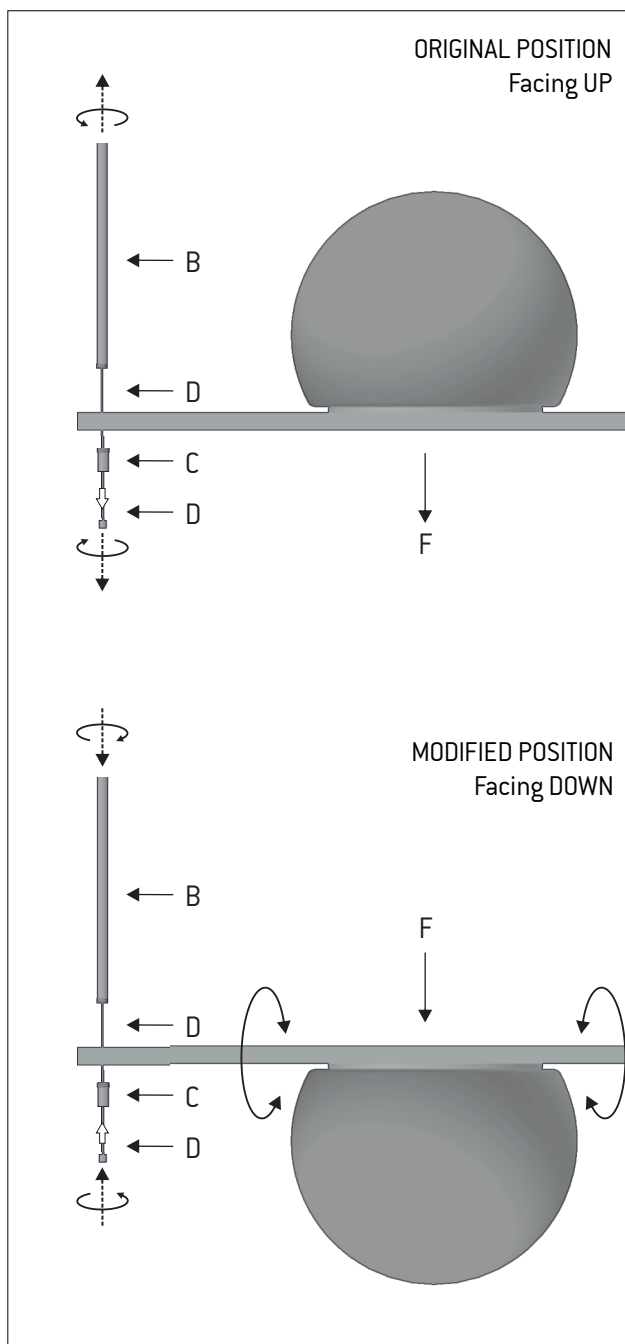

Figure 3
Flip the lamp (F) to place the shades facing down. Screw back the pieces (B and C), the stem (B) should be on the opposite side of the shade. Insert the steel cable through the piece (C) until it appears at the end of the stem (B). Carry out the same action at both ends of the lamp. Figure 3.